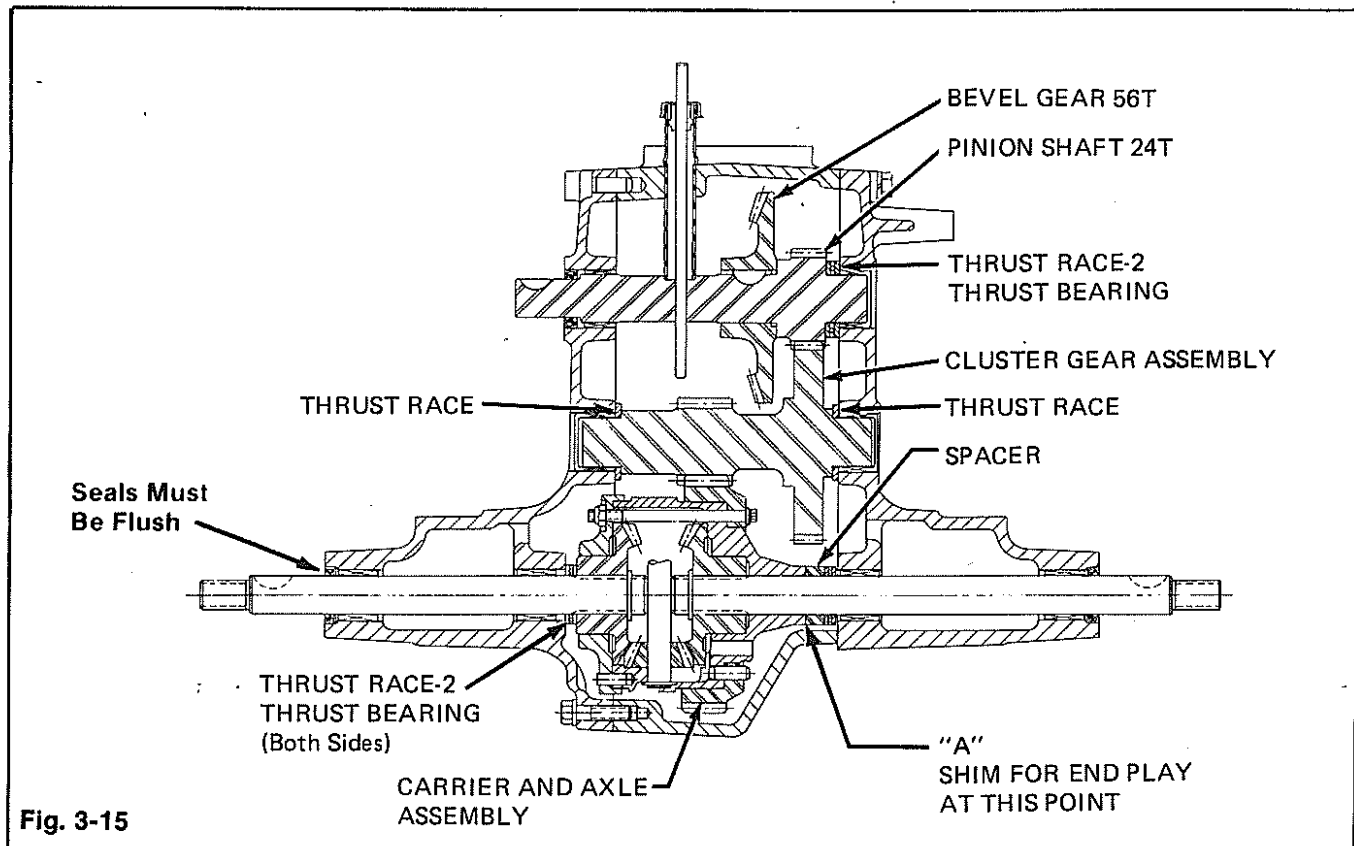

Fig. 3-15
10. Install differential carrier/axle assembly into the left side housing. Be careful not to damage axle seal when installing it in end of housig. Make sure all shims and washers are in place as they were when removed. See Fig. 3-15 for reference.